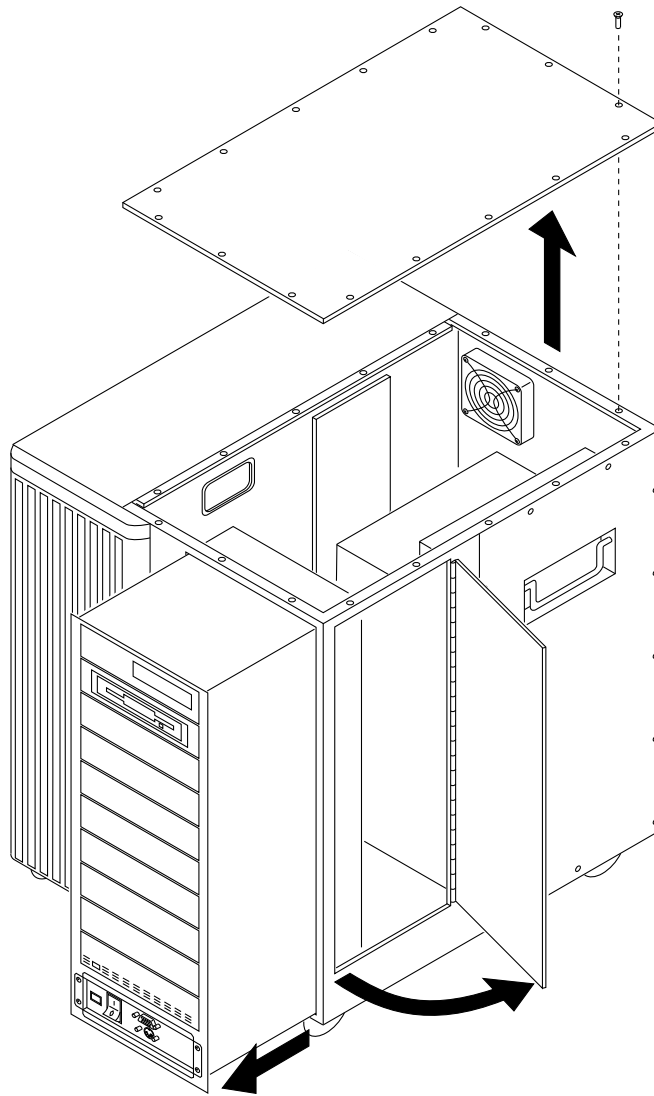

Figure A-6. Front View of MAP/100 with Doors and Deskside Panels Removed
6. Loosen the four 1/4-turn fasteners on the front of the peripheral bay and the seven 1/4-turn fasteners on the right side door as shown in Figure A-6.